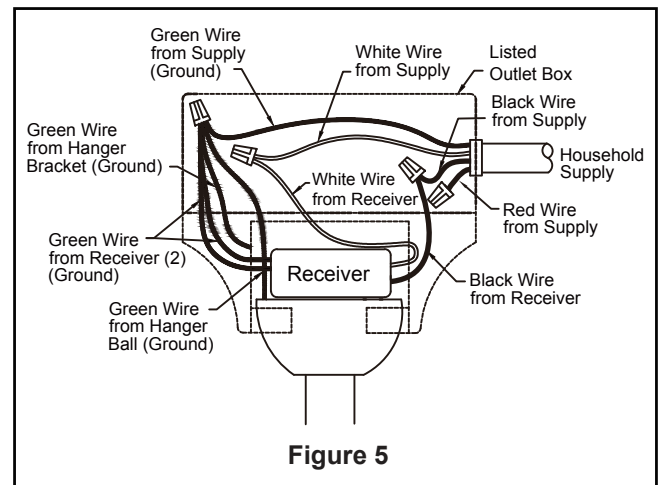

Figure 5
- 5.** Route wires and safety cable through motor coupling cover, canopy screw cover and ceiling canopy. (Figure 5)
4. After connections have been made, put the white and green leads to one side and the black leads towards the other side, the connection should be turned upward and carefully push leads into the outlet box. The wires should be spread apart with the grounded conductor and the equipment-grounding conductor on one side of the outlet box and the ungrounded conductor on the other side. (Figure 5)
5. To set the remote code in the same positions as the receiver, use a small screwdriver or ball point pen (neither included) to slide dip switches firmly up or down. (Figure 5)